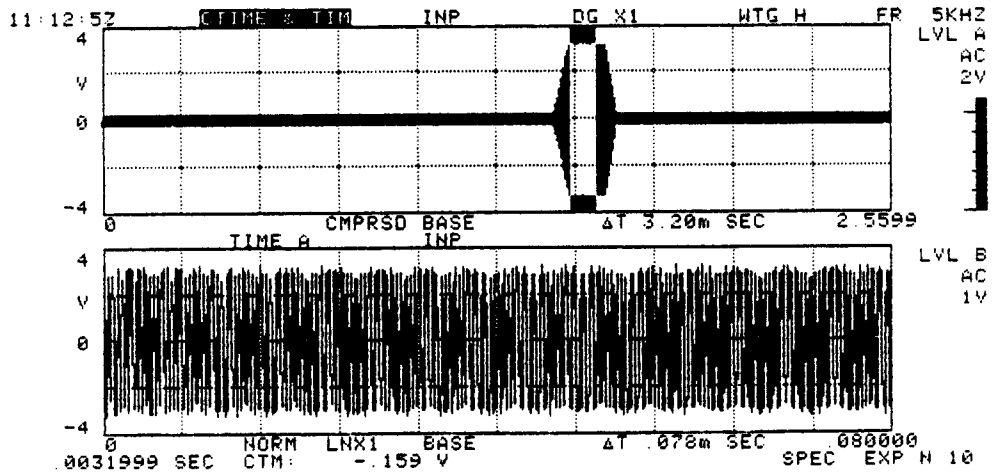

Figure 1-33. CTIME & TIME Display
The CTIME & TIME selection (menu item 3) on the TIME FUNCTION menu allows simultaneous viewing of both compressed and non-compressed time data. Press the FUNC Field Locator, 3 and ENT buttons to select the CTIME & TIM function. Figure 1-33 is an example of a CTIME & TIME display.